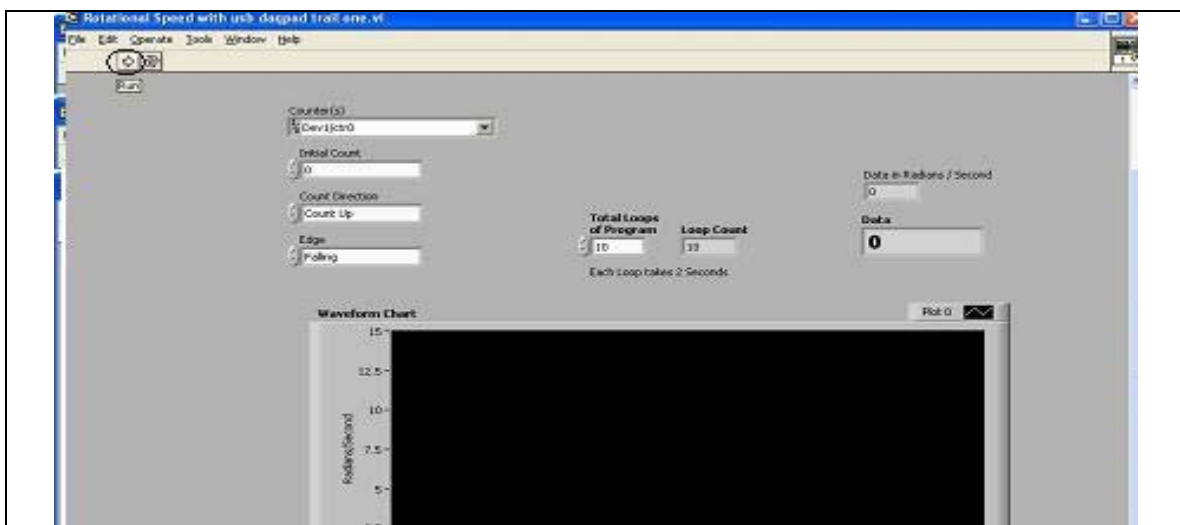
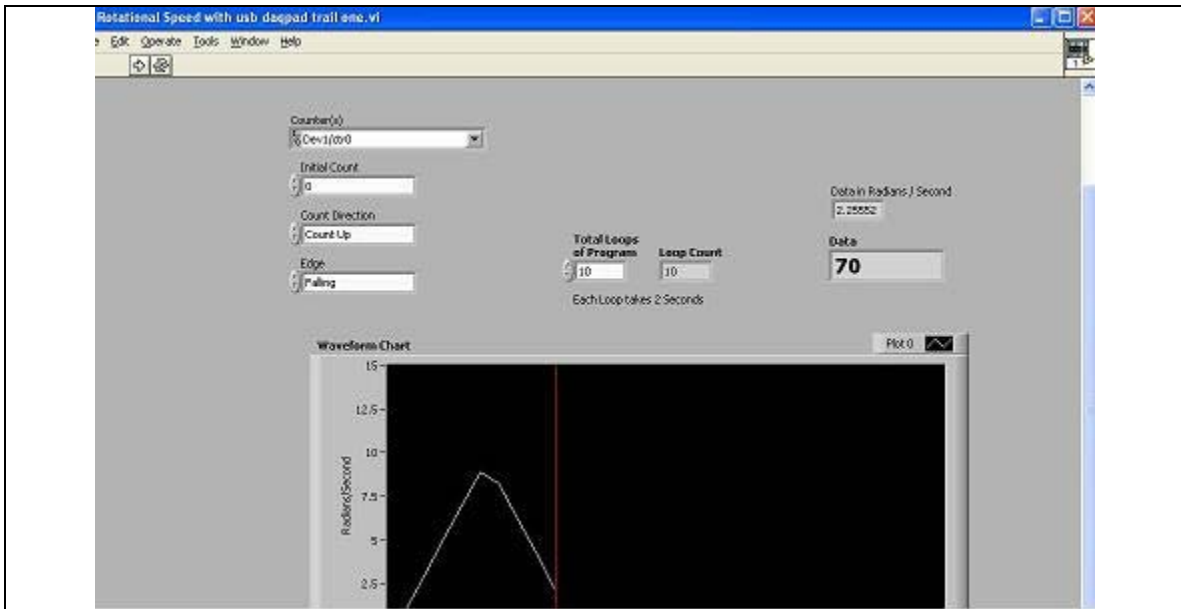

Figure 3S
Figure 4S
3. When you are ready to take data on your first run, click the white **“run”** on the toolbar near the top of the screen. This is circled in Figure 3S below. When you see the red line appear on the screen, the computer is acquiring data and you can release the hanging mass. Your screen should look like Figure 4S when the computer is nearly finished acquiring data.